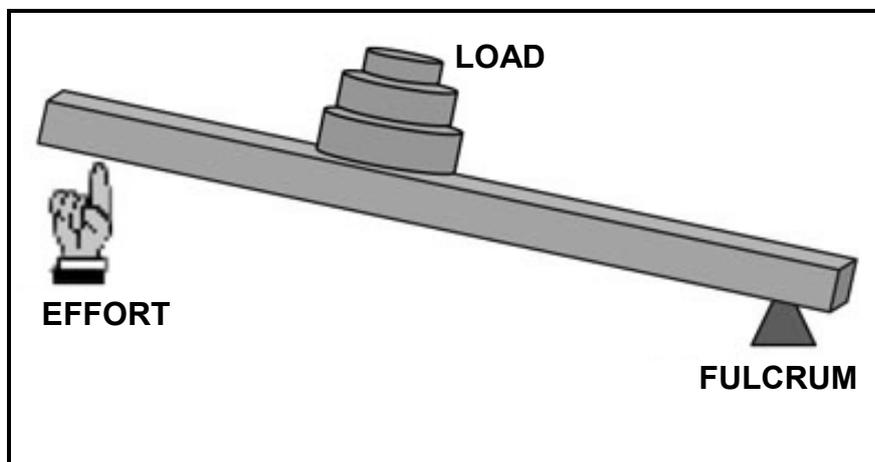

FIGURE 1.3
1.12 What is the class of the lever shown in FIGURE 1.3?